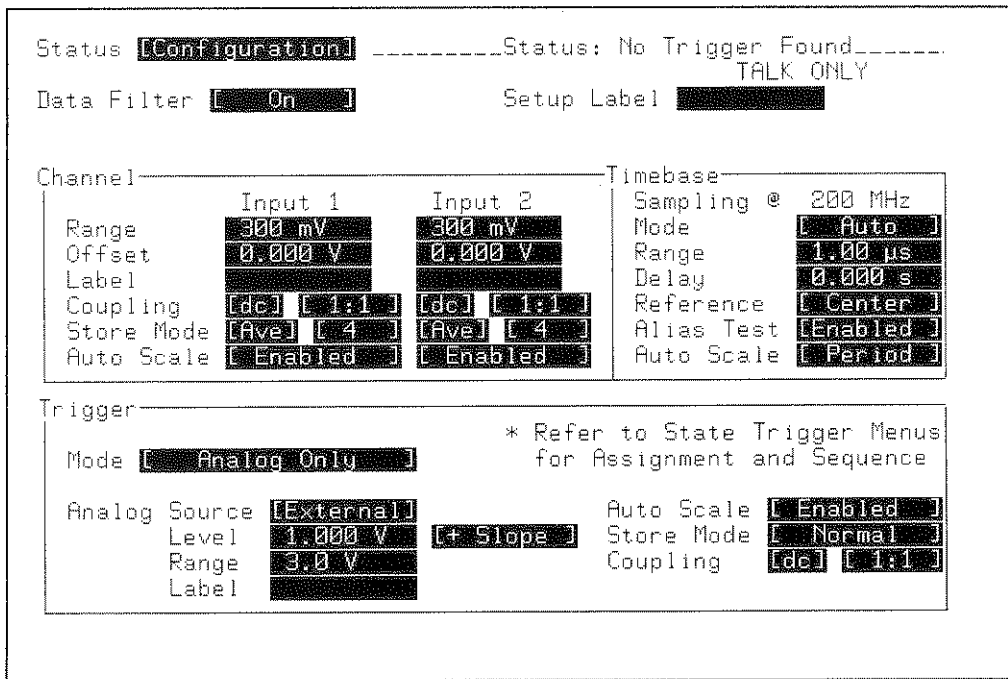

Figure 9-3. STATUS Configuration Menu
2. Configure STATUS Configuration menu as shown in figure 9-3.